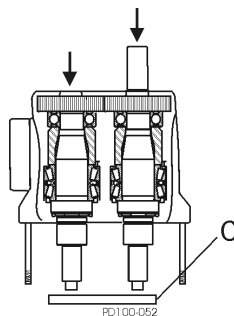

Figure 44 - Press Shafts from Gear Case
- Place the gear case on an arbor press with the liquid end facing down. Protect the shaft ends with a wood or plastic block (Figure 44, item C) and press the shafts out of the gear case.